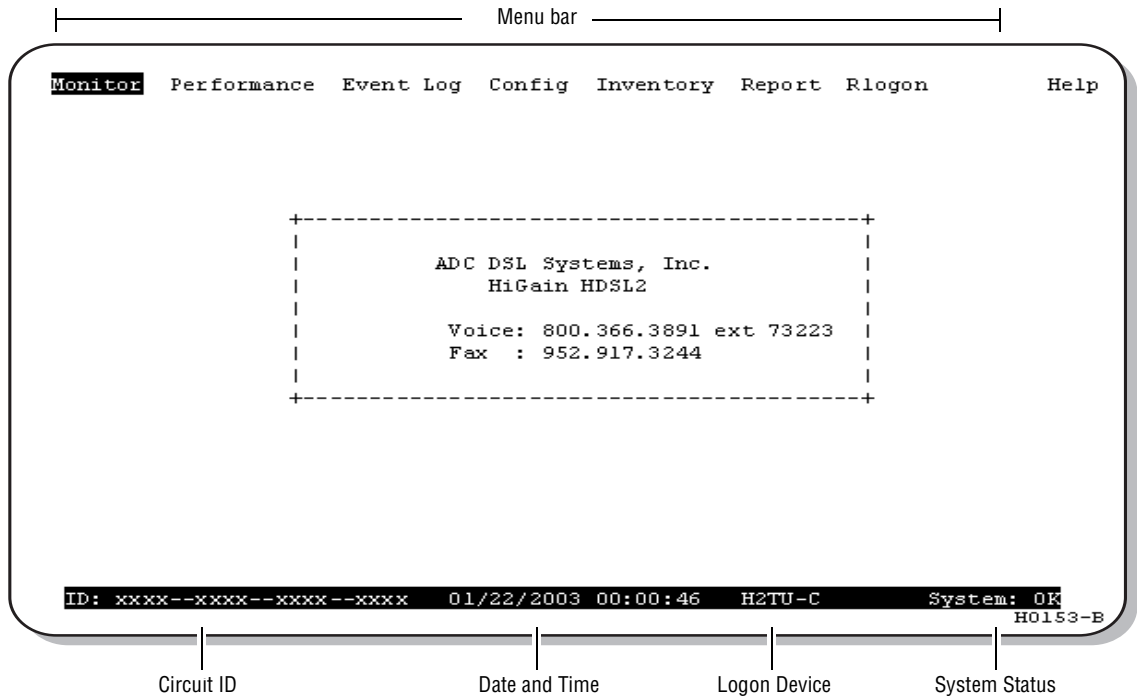

Figure 3. Logon Screen
- Use a maintenance terminal (ASCII terminal or a PC running terminal emulation software) connected to the H2TU-C craft port to access the status, history, inventory, and provisioning screens (see Figure 3 on page 11).
To select a menu from the logon screen (Figure 3), use the   arrow keys, then press **ENTER**.